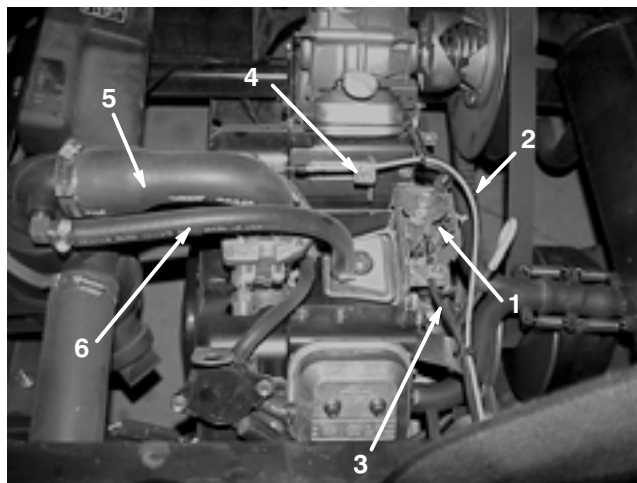

Figure 17
4. Disconnect the following components (Fig. 17).
9. Connect the following components (Fig. 17):